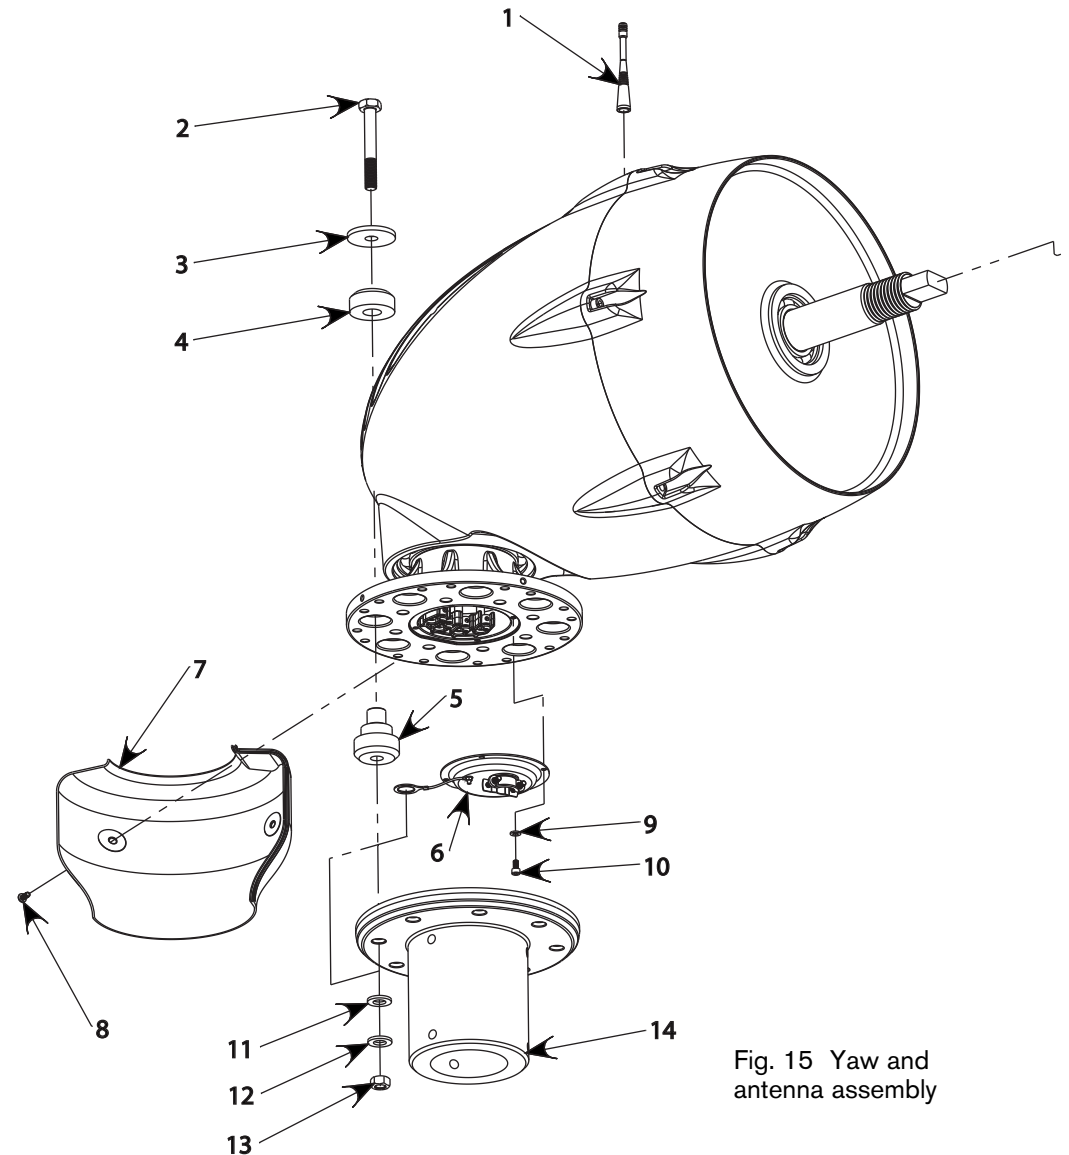

Fig. 15 Yaw and antenna assembly
- Install the vibration isolators on yaw flange as shown in **Fig. 11** (also see **Fig. 15**, page 26). Install snubbing washers and bolts in vibration isolators.
**Note:** The orientation of the vibration isolators is very important. Refer to **Fig. 15** (page 26).
- Mount yaw shield halves using four M5 button head screws. See **Fig. 15** (page 26). Use Loctite® 242 supplied with Skystream.